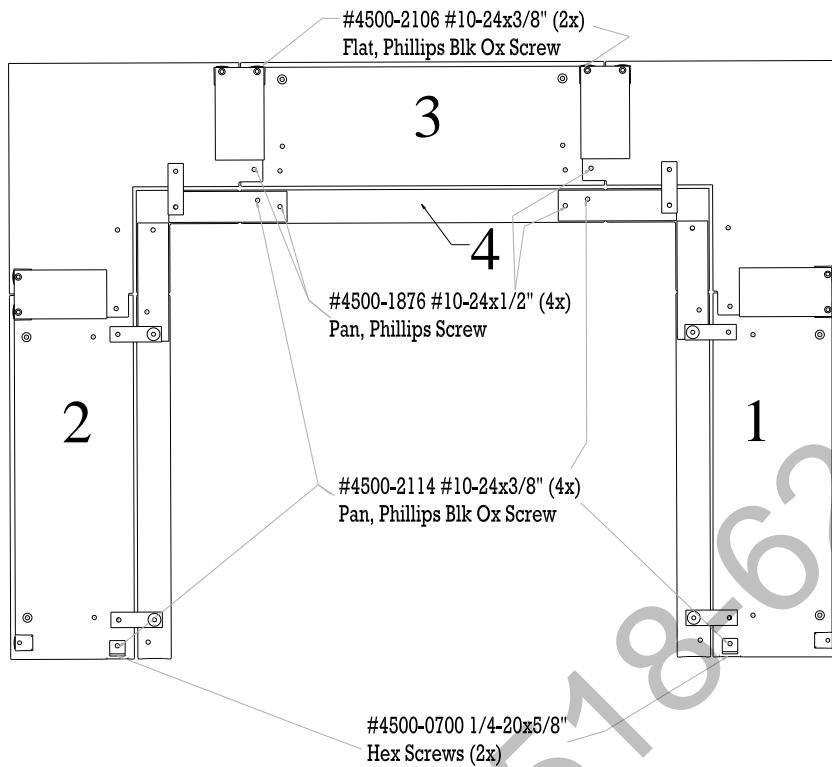

Figure 4 Morgan Surround Assembly
USE FIGURE 4 AS A REFERENCE, WHEN ASSEMBLING THE SURROUND
1. Position the *Center Top Inner and Outer Sections* (3+4) of the surround into position as illustrated in Figure 4. Secure them to the top panel using the fasteners provided in the zip lock bag – proper placement of the screws is called out in Figure 4
2. Repeat steps 1-4 with the *Left section* (2)